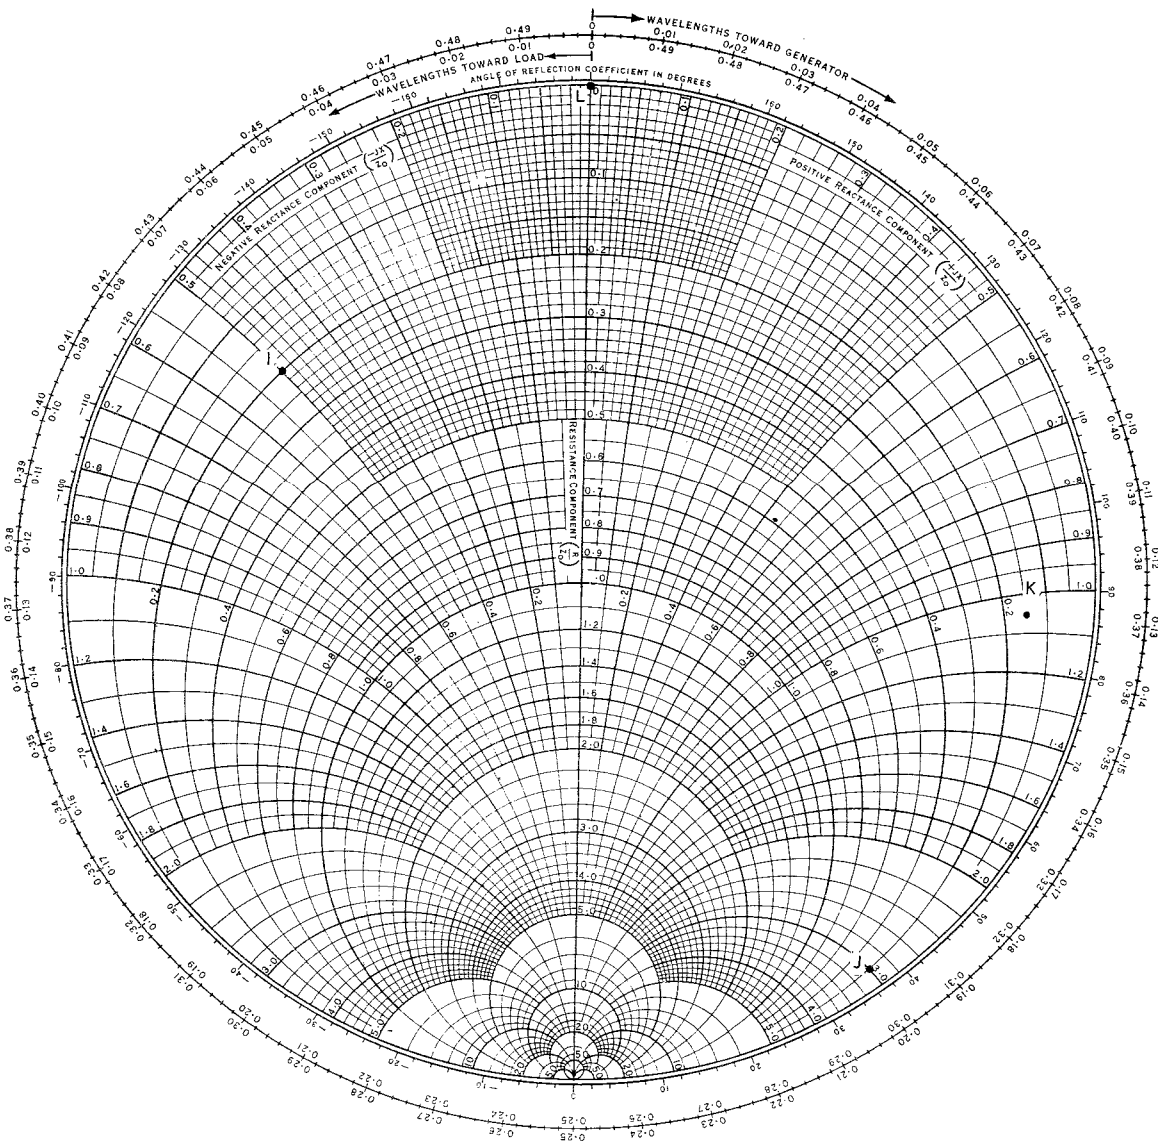

FIG. 5. PLOTTING IMPEDANCES ON THE SMITH CHART.
1. On the Smith Chart shown in Fig. 5, plot and label the following impedance values:-
2. In Fig. 5, state the impedance ( $R \pm jX$ ) indicated by:-